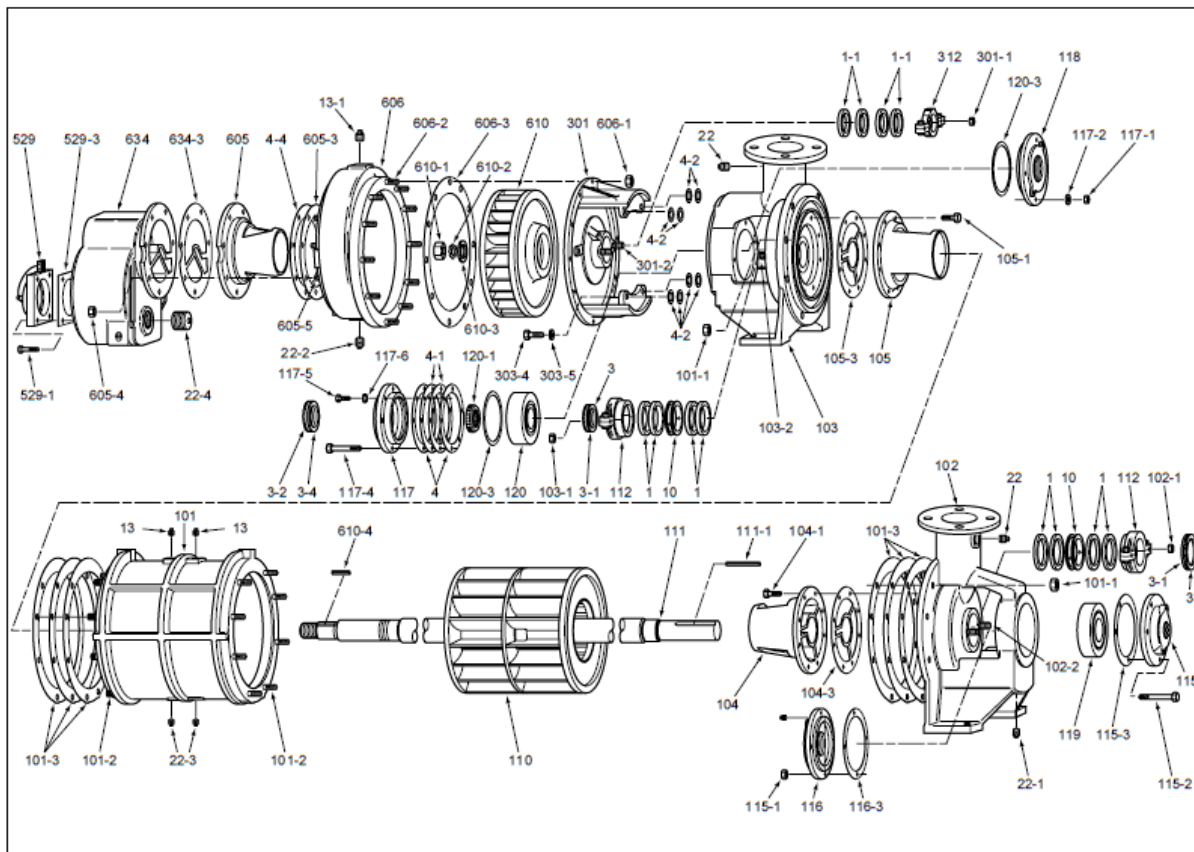

Fig. 9.1 Exploded View of NES NAT-404, NAT-704, and NAT-706 Two Stage Vacuum Pumps
a-1. Move the slinger (Index No. 3 or 3-2, Figures 9-1 to 9-4) and slinger spring (3-1 or 3-4) away from the stuffing box on the shaft.
- b. Drain the pump by extracting the seal water drain plugs from the first and second stages (refer to Figures 9-1 to 9-4 for the locations of the drain plugs).
- b-1. Remove all drain plugs for seal water from the pump (refer to Figures 9.1 to 9.4 for the plug locations). Allow all liquid to drain from the pump and then reinstall the plugs.
Legend for Figure 9-1.